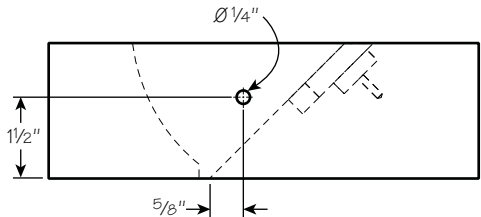

Figure 11: Cross-pin hole.
10. Drill a $\frac{1}{4}$ " diameter hole through both sides of the plane body at a location $\frac{5}{8}$ " back from the blade bed edge and $1\frac{1}{2}$ " up from the sole, as shown in **Figure 11**.